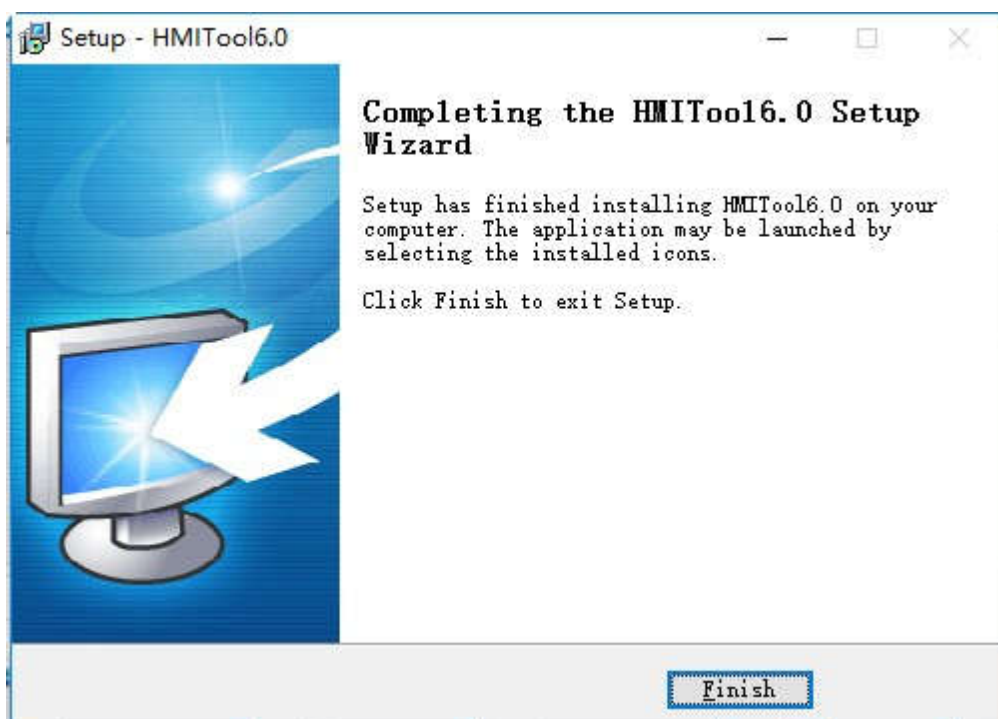

Figure 2-10 Installation Completed Interface
- Having installed the driver, it will display Installation Completed Interface; click Finish to end the installation guide. As shown in Figure 2-10: